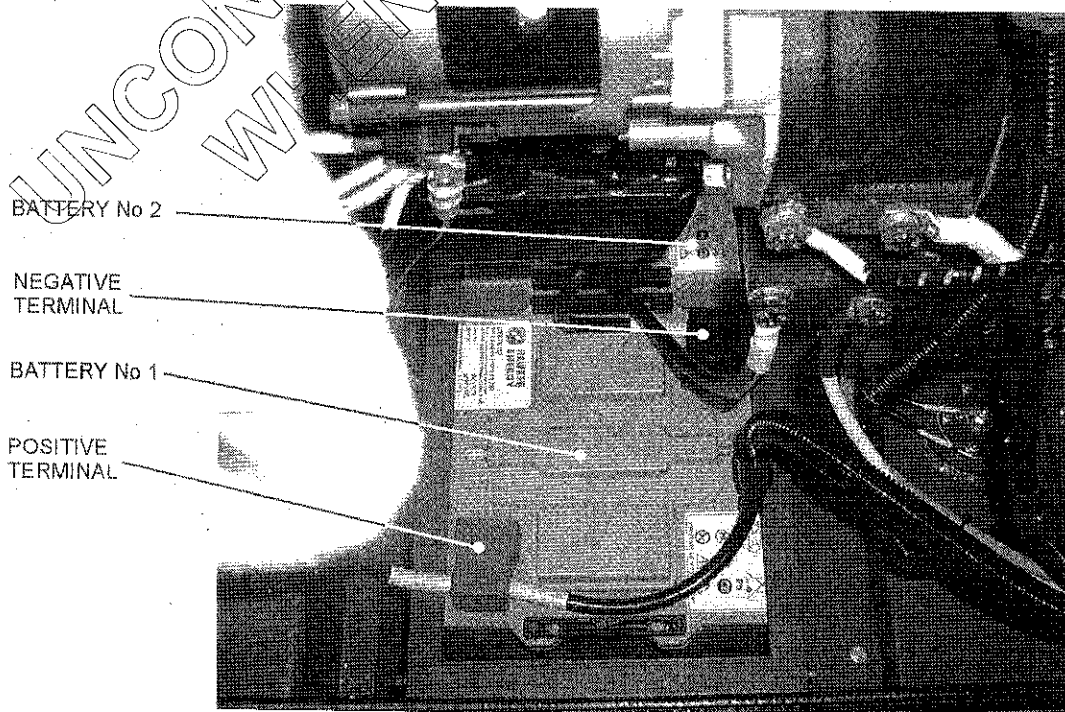
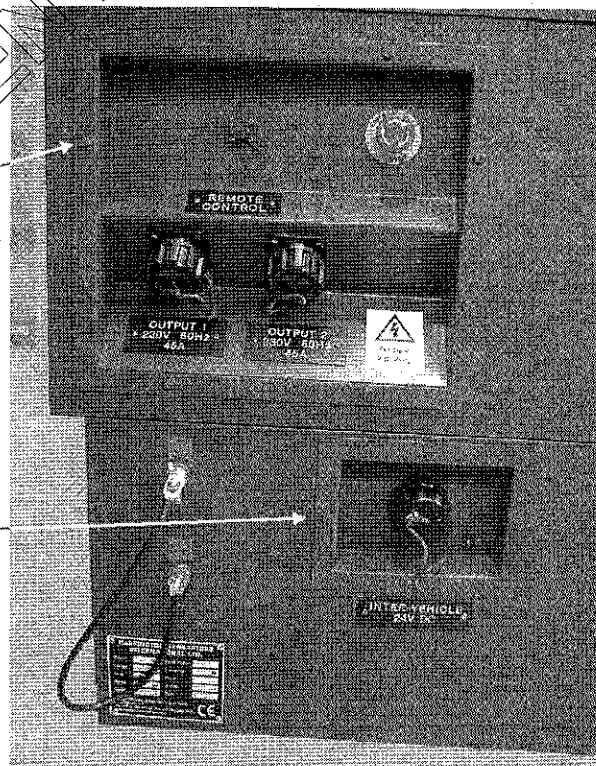

Fig 2 Battery terminals
Fig 4 Output pod and inter-vehicle connection pod
(1) Remove the control pod as described in Para 3.
(2) When the gland plate has been separated from the control panel, remove the conduit gland nut from conduit number 3 and conduit number 5 and withdraw the cables through the gland plate. These are the conduits to the main alternator and the engine respectively.
(3) Remove the eight M6 setscrews (Fig 4) that secure the Output Pod to the canopy end panel.
(4) Ease the Output Pod forward and lift it clear of the generator, complete with the NEMP/LEMP filter and conduits attached.
(5) The Output Pod can be replaced complete with conduits. Alternatively, systematically remove the cover plates and swap the conduit and NEMP/LEMP filter from the outgoing pod to the incoming pod.
(1) Unlatch and remove the lift-off canopy door.
(2) Working through the door opening, lift the red terminal boot cover off the positive terminal on the nearest battery (see Fig 2).
(3) Leave the positive battery terminal clamp in place and remove the lead marked 22BAT+ from the clamp.
(4) Remove the lead marked 00BAT- that is bolted onto the side of the engine flywheel housing.
(5) Remove the four M6 setscrews (Fig 4) that secure the Inter-vehicle Socket Pod to the canopy end panel.
(6) Ease the pod out through the aperture and withdraw with the conduit attached.
(7) The Inter-vehicle Socket Pod can be replaced complete with conduit.
(8) Alternatively remove the cover plate and swap the conduit assembly from the outgoing pod to the incoming one.